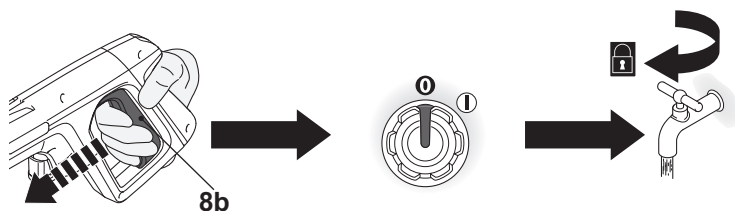

Fig. 23
- > Release the trigger (8b) (Fig. 23).